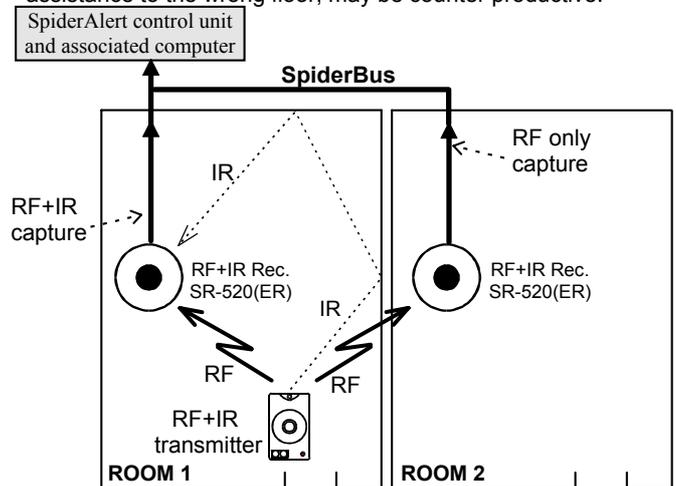

Figure 1-2 - Demonstration of RF+IR technology advantage
when there is no direct or indirect path between the dual-technology transmitter and receiver (as shown in room #2, Figure 1-2). Dual-technology reception will invariably provide a more accurate indication of the area where the transmitter was located when activated.
- D. When selecting a mounting location, be sure to consider the possibility of reflections from bare tile floors, smooth walls and ceilings. The IR signal may be directed towards the reflecting object and still reach the receiver (see Fig. 1-2).